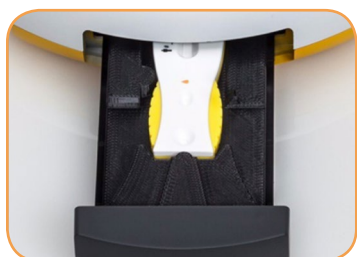

FIGURE 40
2. After preparing the test cassette, immediately insert the cassette into the reader. (Figure 40).